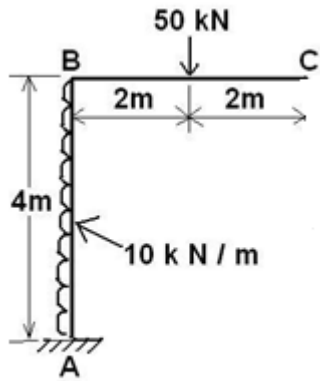

Fig. 3
- Q.3** (a) Find vertical deflection at point C for the frame shown in figure. 3 using Castigliano's first theorem. Take  $EI= 32000 \text{ kN.m}^2$ . **07**